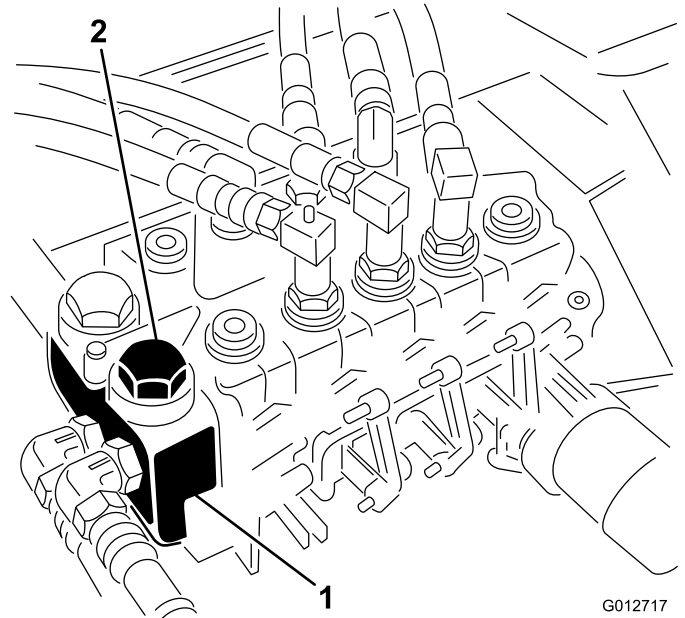

Figure 2
6. Carefully remove the 4 plugs from the top of the two outboard valve sections (Figure 2).